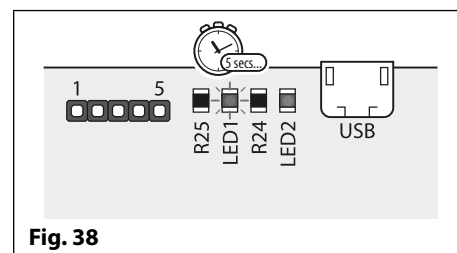

Fig. 38
5. The red LED (LED1) will start to flash again while the green LED (LED2) stays ON, for a further 5 seconds, as shown in **Fig.38**;